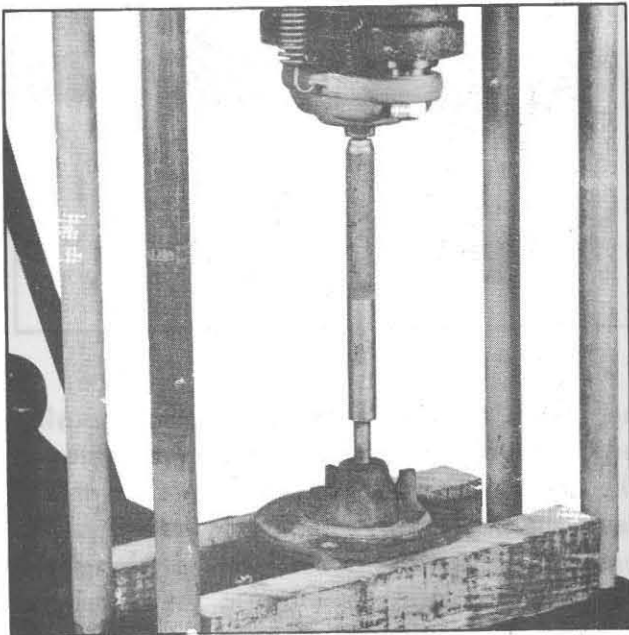

Fig. 157
2. After removing the bolt, the stamped type impeller may usually be pried off the shaft with a screwdriver. The cast iron impeller is removed by pressing the shaft out of the impeller as shown in Fig.157.